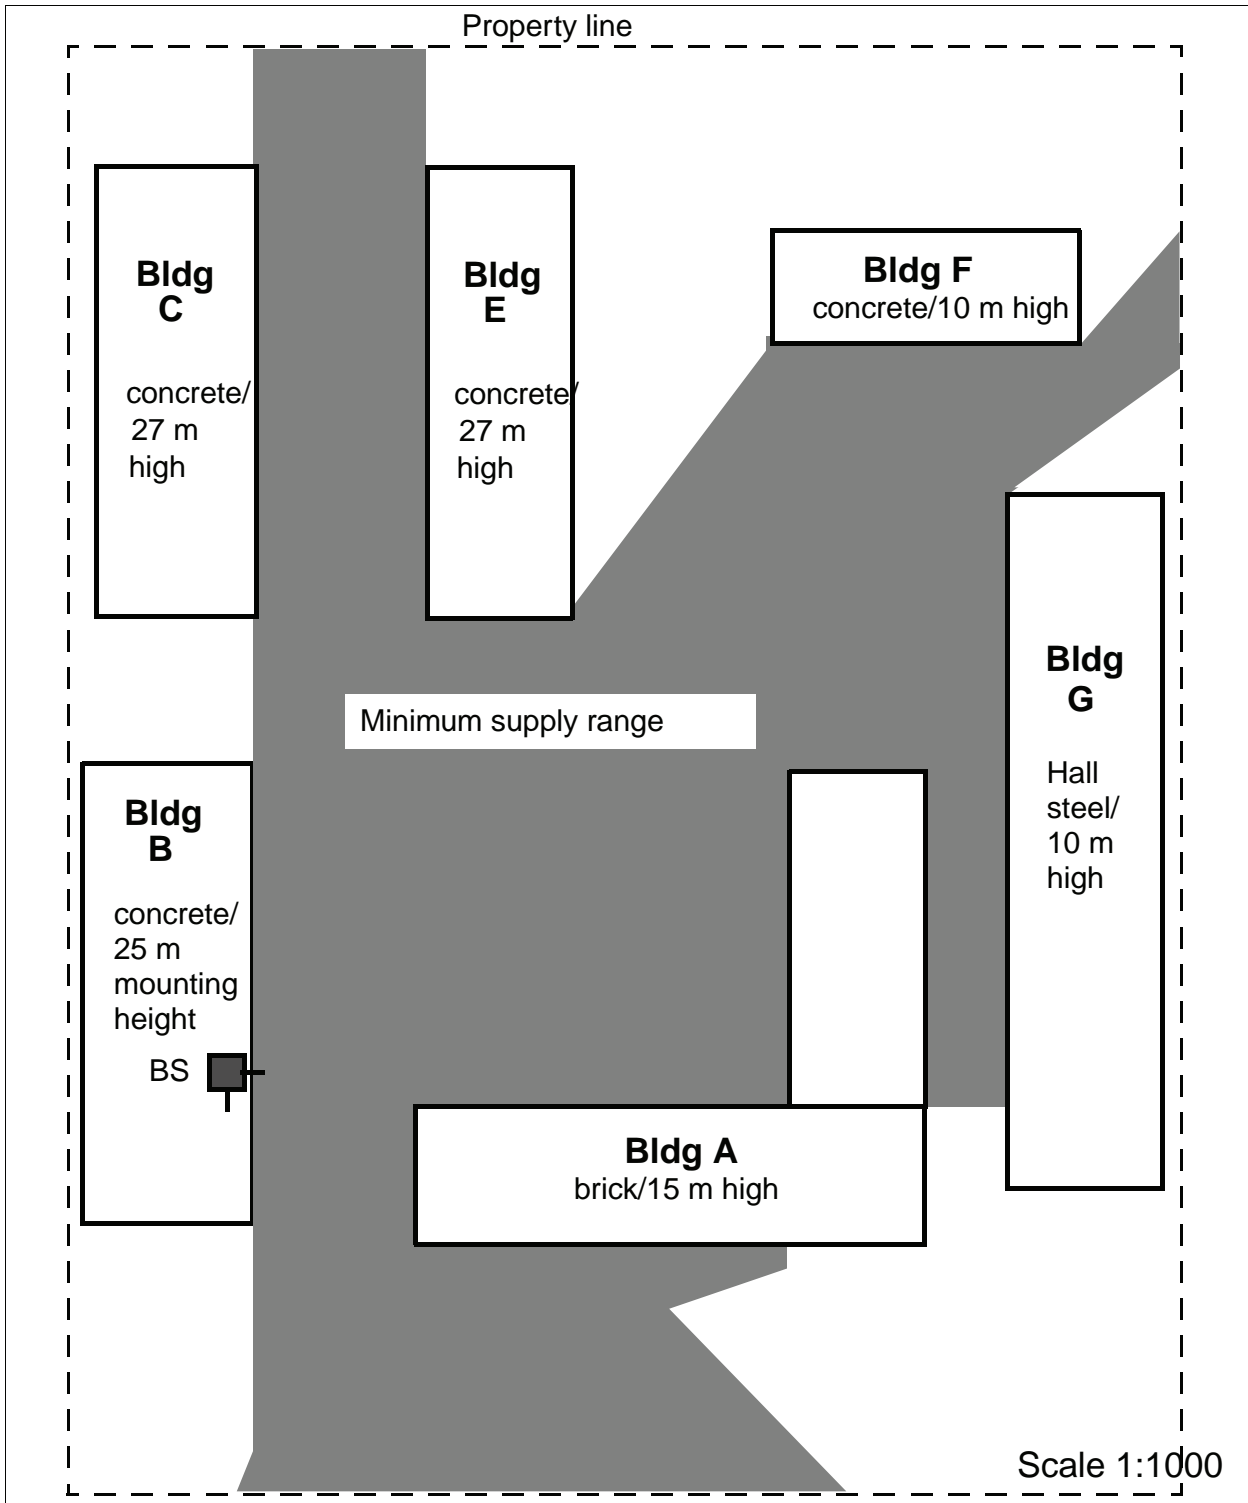

Figure 13 Base station distribution for coverage of an outdoor area
Example: Planning an outdoor area (Figure 13)
- Site plan, see Figure 13